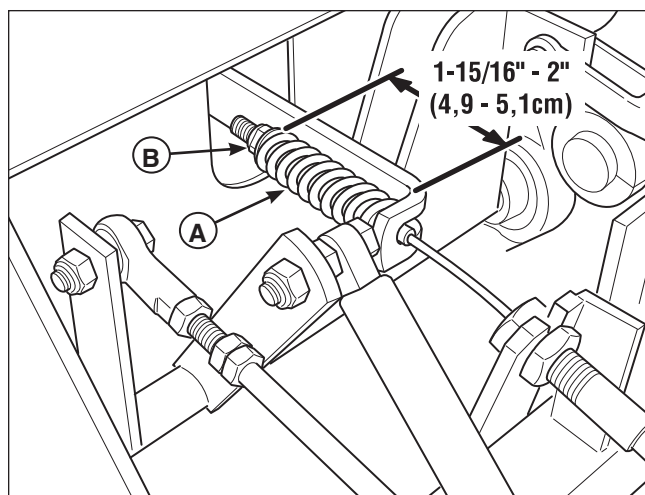

Figure 36. Parking Brake Adjustment
3. Locate the brake spring (**A**, **Figure 36**).